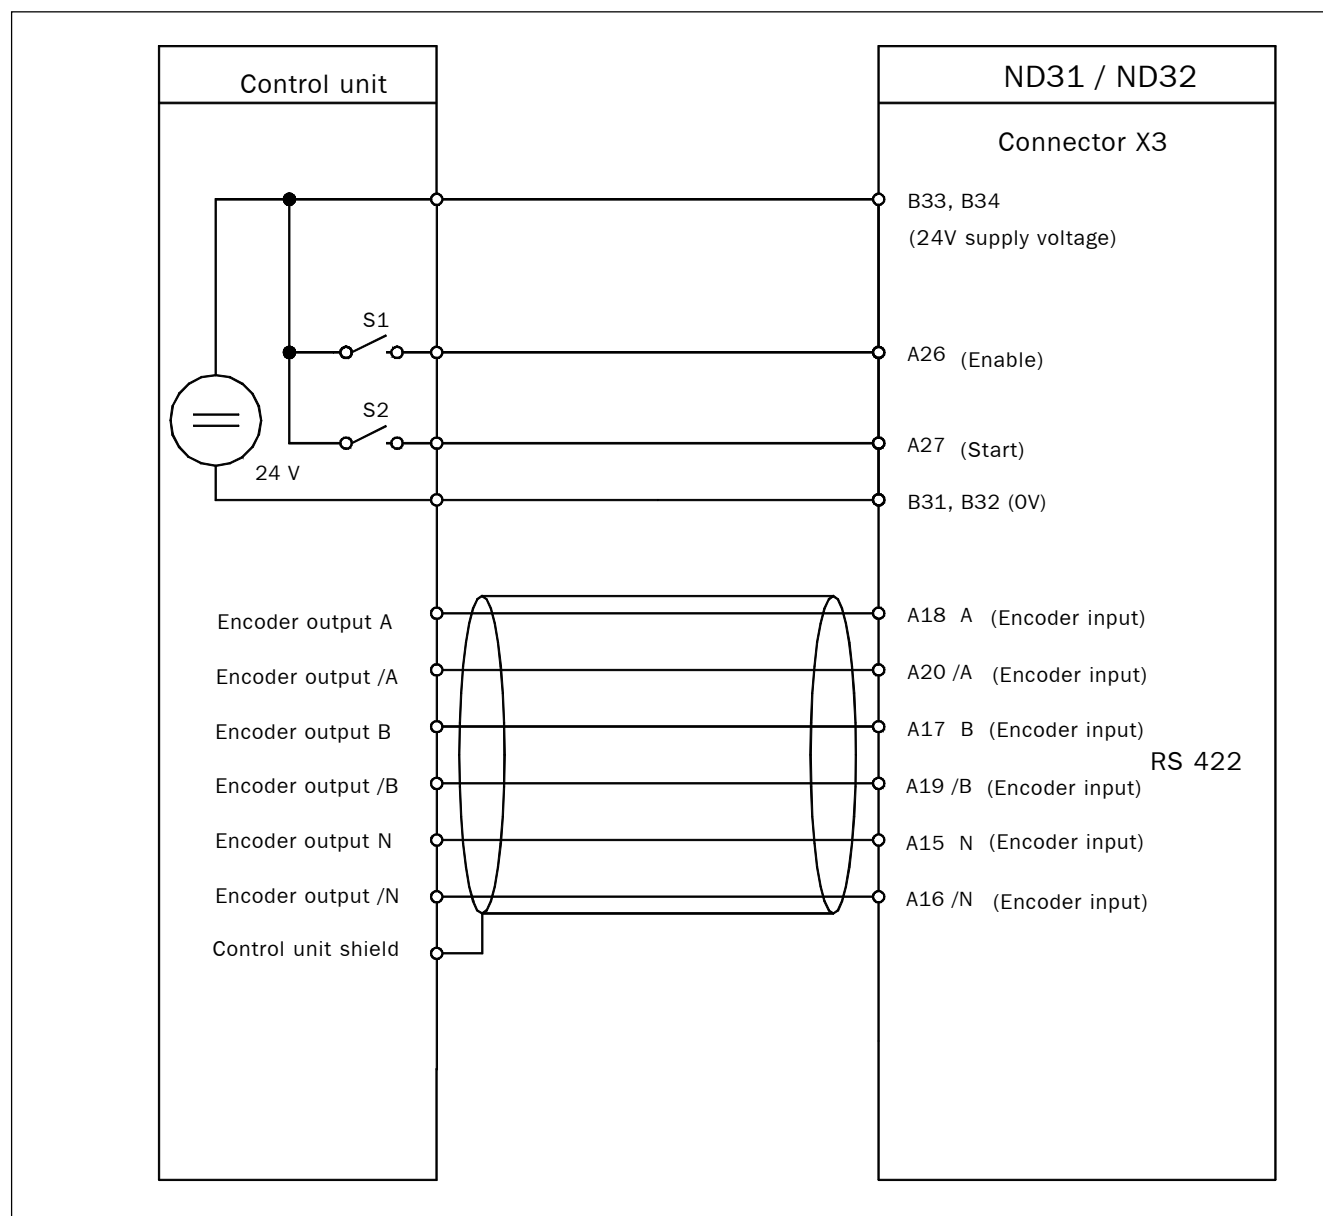

Figure 6.1-1
- Apply the signals according to Figure 6.1-1. The signal amplitudes comply with RS422 standard and may not exceed 5 V.